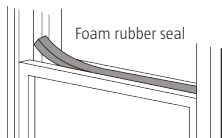

Fig. 11
5. Cut the foam rubber seal to a suitable length and seal the gap between the window halves (fig. 11).